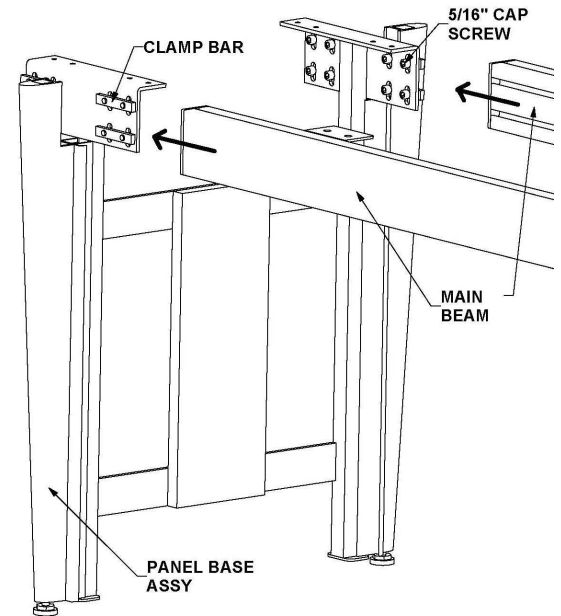

Figure 1
1. End Base Installation: Loosen (Do not remove) 5/16" Cap Screws attached to Clamp Bars (See Figure 1)
2. Slide Main Beams into position with the Clamp Bars aligned in the slots of the Main Beam (See Figures 1 & 2)